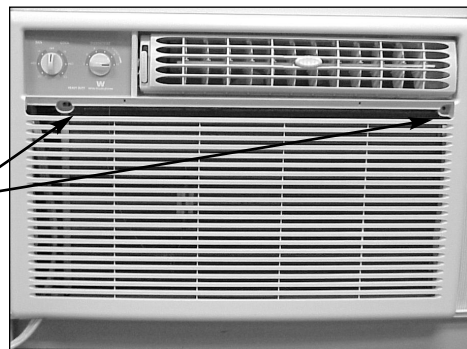

FIG. 3
- Install front retaining screw(s) behind the filter handle or filter & panel (Figs. 3 & 4).